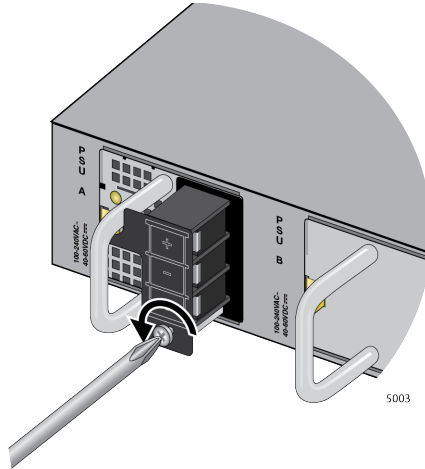

Figure 42. Loosening the Screw for the Panel
2. Loosen the screw for the connector panel several turns with a Phillips-head screwdriver. Refer to Figure 42 on page 92.